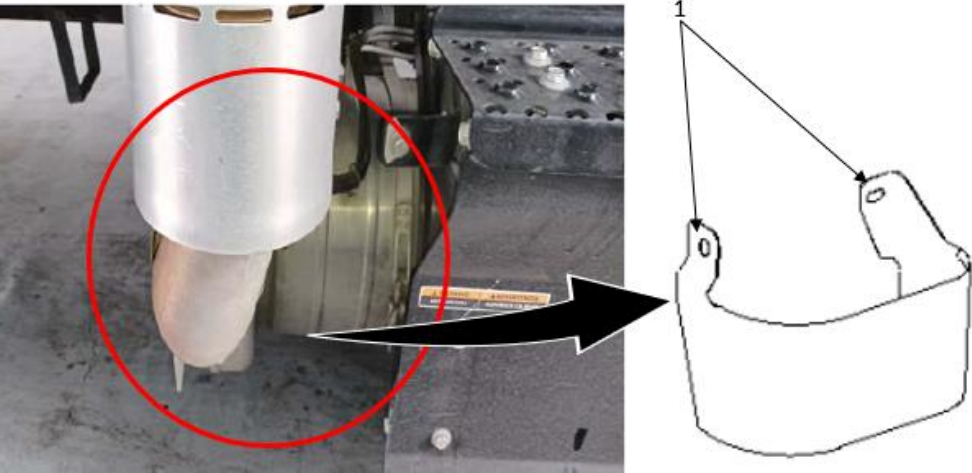

Figure 3. Exhaust Heat Shield Missing
1. Latching bolt (2) and washer (2)
12. Install new heat shield and secure exhaust heat shield using previously removed latching bolts with washers including the new washer (Figure 3, Item 1).